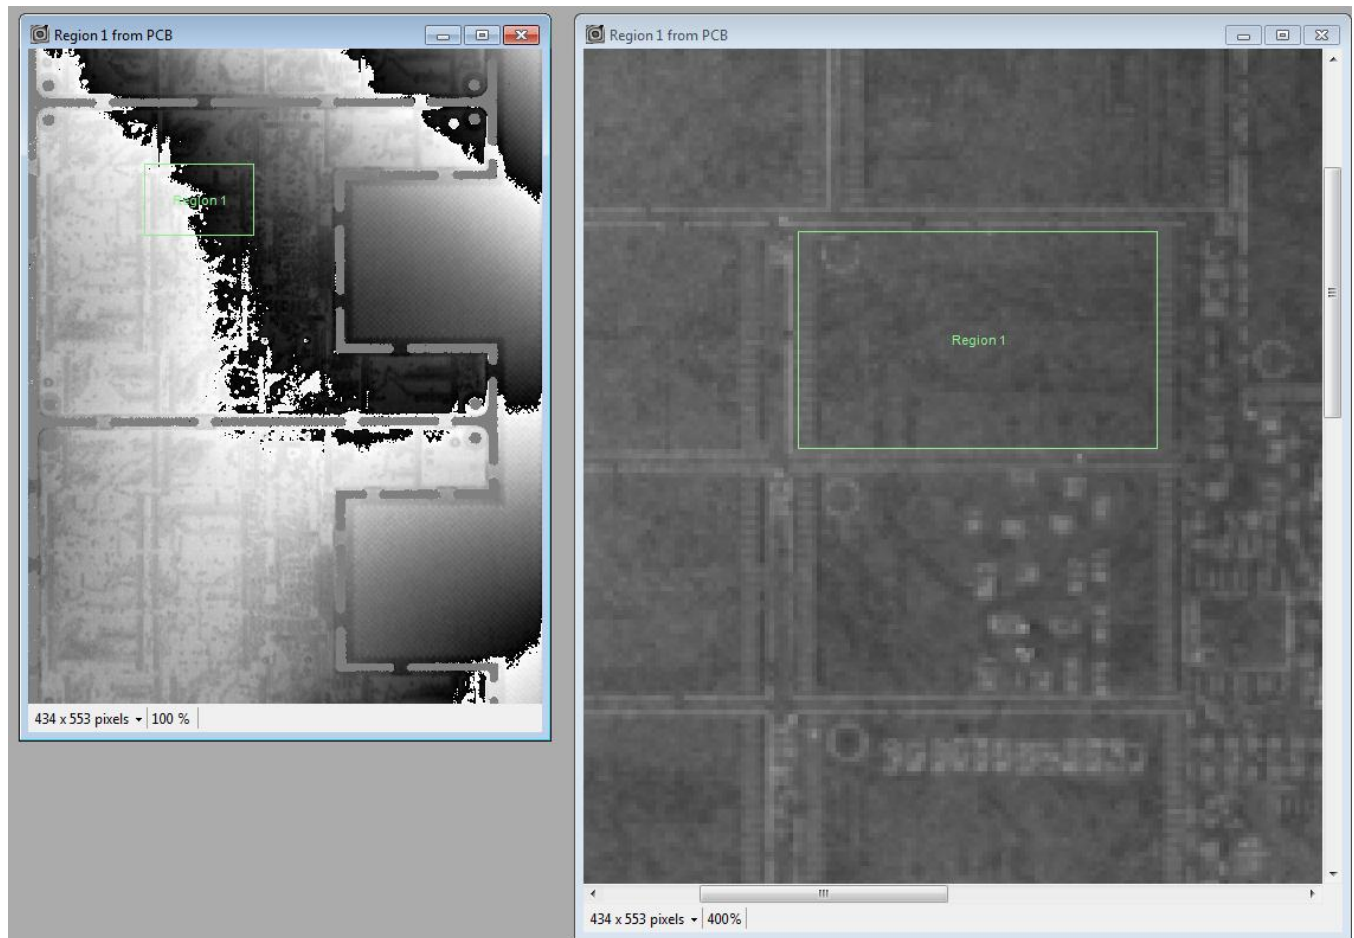

Figure 5. Zoom and Surface Image View Featured
- Surface Image View: As shown on the right of Figure 5, this feature allows the user to perform data analysis (partitioning and masking) on a generated picture of the part instead of trying to interpret and process data on the phase image display (shown on the left of Figure 5). Accurately partitioning and masking the correct set of data is critical to repeatable and accurate results.
- Partitioning: The key to generating repeatable surface data often comes down to the ability to partition captured data accurately. Using the above features to the user's advantage, partitioning a part or local area is a much more repeatable process. Figure 5 is a strong example. On the left side of Figure 5 pulling out any local areas accurately would not be reasonable, but looking at a zoomed view of the Surface image on the right side of Figure 5 allows the user to select a desired local area down to the pixel. This partition can of course be saved for reuse, as well as copied and pasted to capture multiple parts or local areas of the same size.